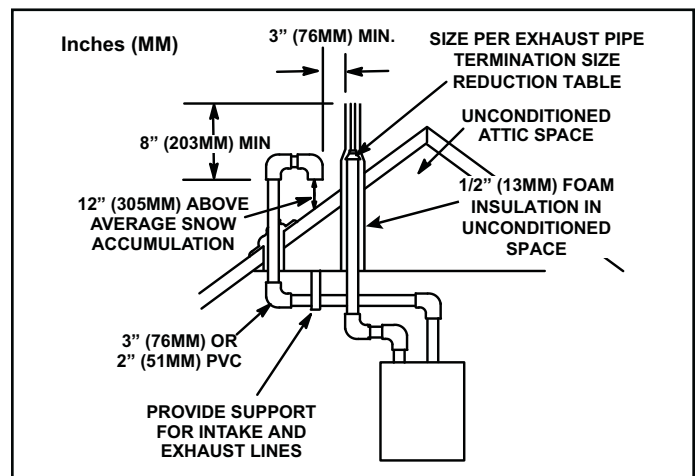

Figure 26. Direct Vent Roof Termination Kit
Intake and exhaust pipes may be routed either horizontally through and outside wall or vertically through the roof. In attic or closet installations, vertical termination through the roof is preferred. Figure 26 through Figure 32 show typical terminations.
3. On roof terminations, the intake piping should terminate straight down using two 90° elbows (See Figure 26).
4. Exhaust piping must terminate straight out or up as shown. A reducer is required on the exhaust piping at the point where it exits the structure to improve the velocity of exhaust away from the intake piping. See Figure 26.